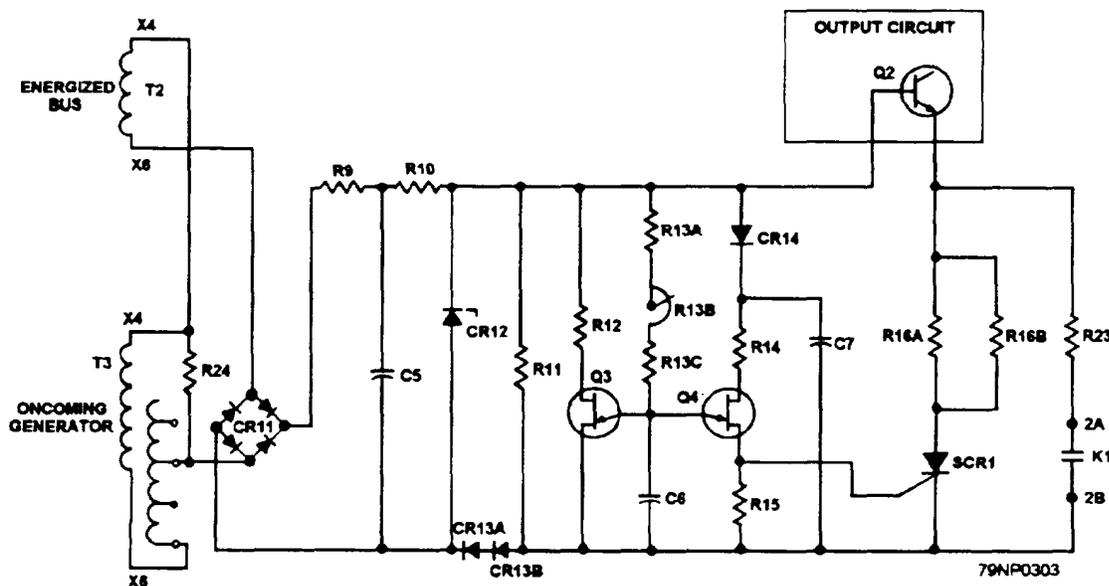
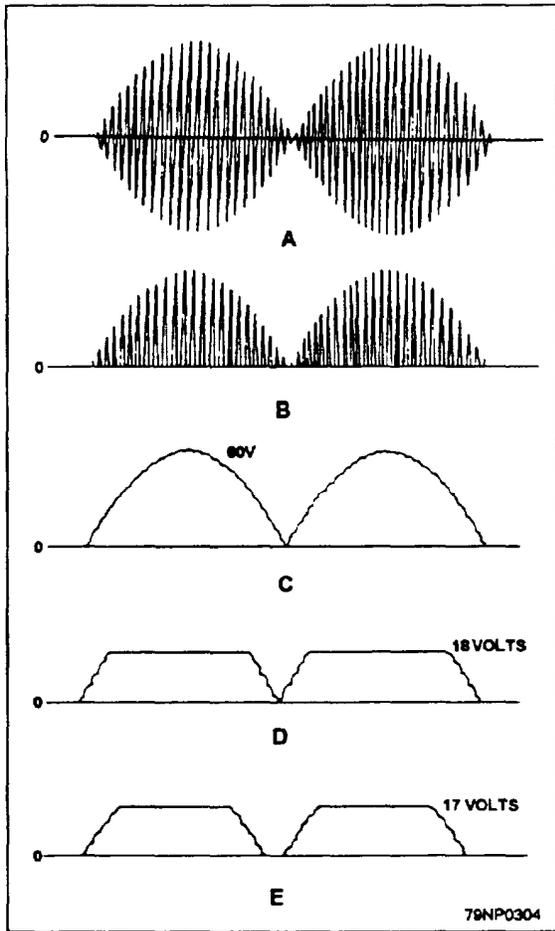

Figure 8-34.—Schematic diagram of frequency difference monitoring circuit.
Figure 8-35.—Beat frequency voltages.
Look at the schematic in figure 8-34. The secondary windings X4 and X6 of T2 and X4 and X6 of T3 are connected in such a manner that a beat frequency voltage (heterodyne wave) is generated. This beat frequency voltage is the difference between bus and oncoming generator frequencies (fig. 8-35, view A). Refer to figures 8-34 and 8-35 as you see how the circuit functions:
2. The resulting dc signal (fig. 8-35, view B) is filtered by resistor R9 and capacitor C5 (fig. 8-35, view C)
3. The beat frequency voltage is clipped by resistor R10 and Zener diode CR12 to a constant dc level (fig. 8-35, view D)
4. The signal is now sent to resistor R11 and diode CR13 (views A and B). Here, about 1 volt is subtracted from the clipped beat frequency signal (fig. 8-35, view E) to ensure the clipped beat frequency voltage signal goes to zero when the original beat frequency goes to zero
5. The clipped beat frequency voltage signal is applied across base 1 and base 2 of unijunction transistors Q3 and Q4 (fig. 8-34). This signal is also applied to the RC circuit, consisting of resistors R13A, R13B, R13C, and capacitor C6.
- When Q4 fires, a voltage pulse is generated across R15 (fig. 8-34) and is applied to the gate of SCR1.